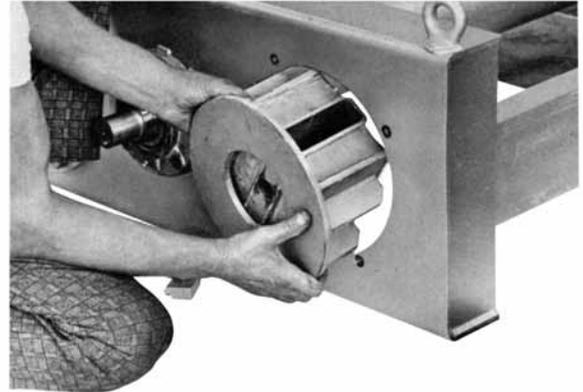

FIGURE 9
2. Remove old spring as shown (Figure 9).